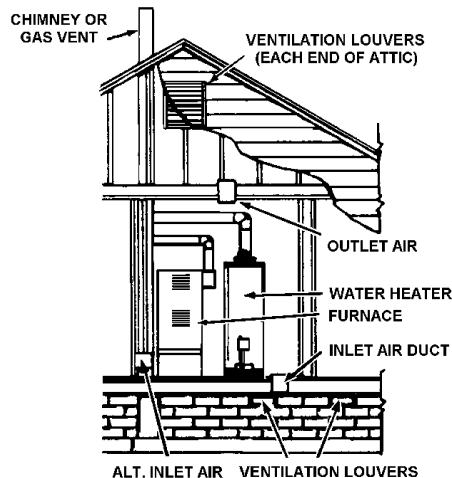

FIGURE 11.
- When directly communicating with the outdoors, each opening shall have a minimum free area of 1 square inch per 4,000 Btu per hour (5.5 cm2/kW) of total input rating of all equipment in the enclosure. See Figure 11.